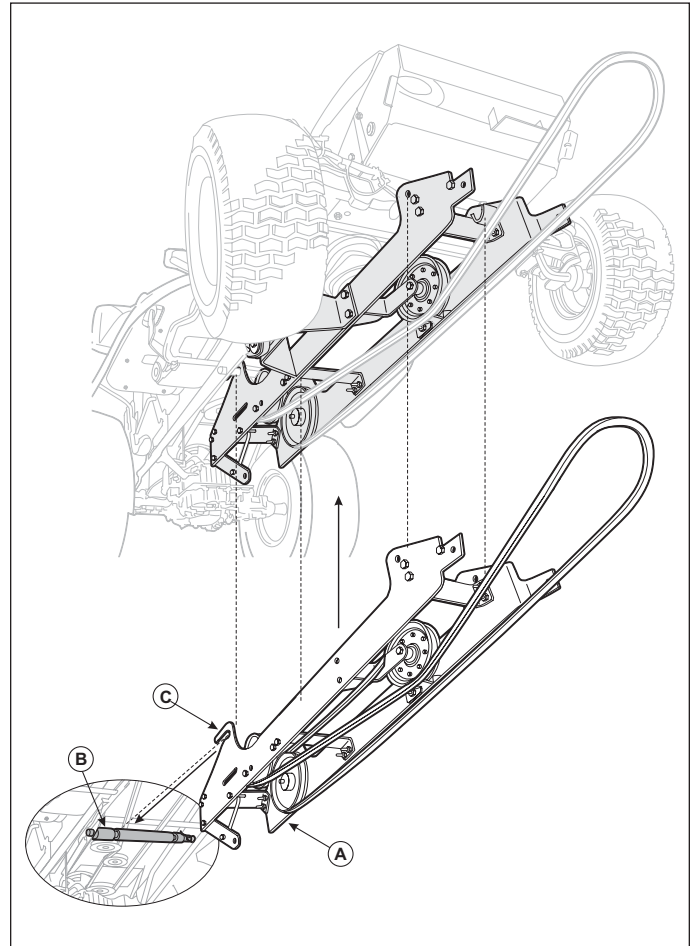

Figure 12. Hitch Installation
4. Slide hitch (A, Figure 12) under tractor and lift to slide hitch mounting arms (C) over hitch support shaft (B).